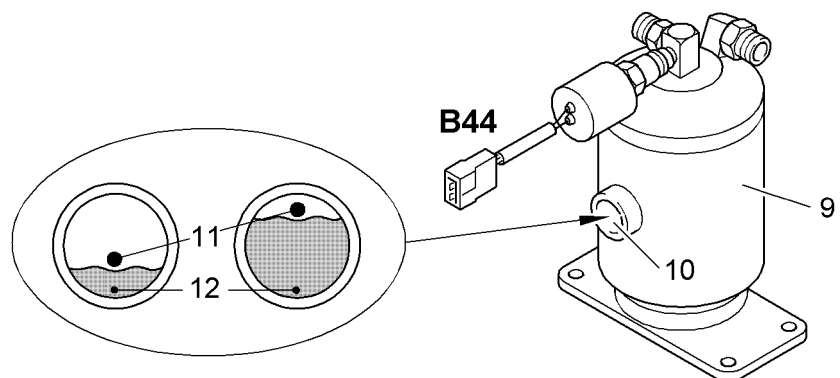

Fig. 5-73 Dryer-accumulator unit
- ▶ Check the function of the pressure switch **B44** on the dryer-accumulator unit **9** (siehe Fig. 5-73).